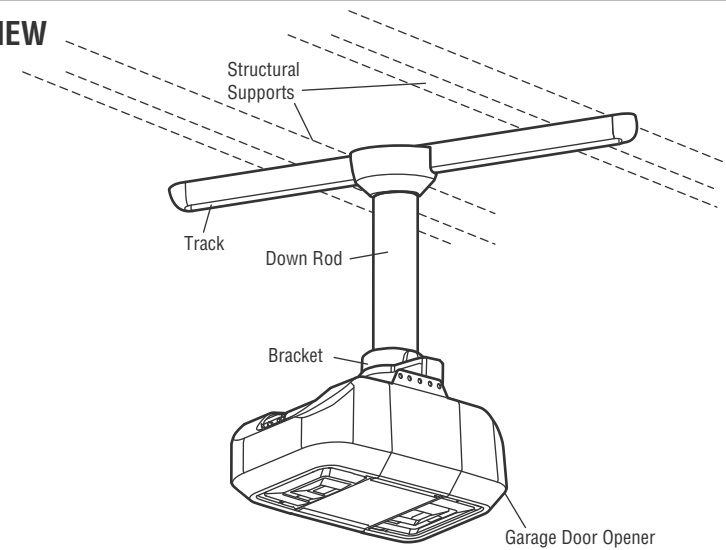

FIGURE 3
3. ATTACH THE BRACKET TO THE DOWN ROD (FIGURE 3)